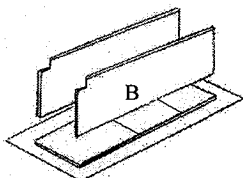
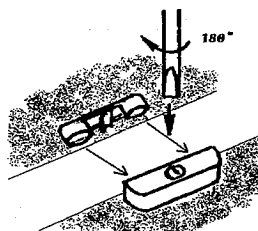

Figure 2.
Figure 3.
3. Install side panels: insert right and left side panels (B) into the grooves of Back Panel (F) and align the cam lock connectors (Figure 2). Lock the cam lock with a screwdriver by turning the screw 180° degree clockwise (Figure 3).